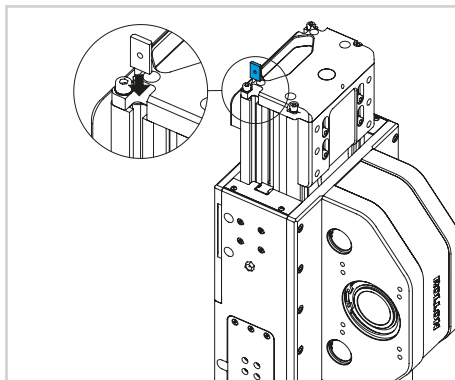

Fig. 26
- 2) Insert the fixing nuts in the profile slot accessing through the upper plate. Repeat the operation also for the sensor dog to be installed in the lower side of the profile (Fig.26).